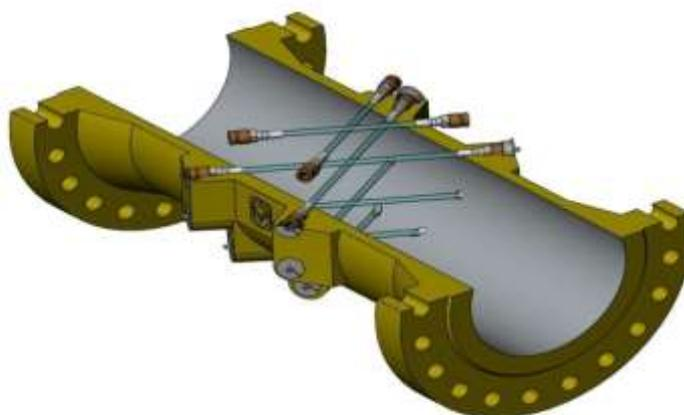

Figure 1 – Measuring scheme of the Vympel-500 ultrasonic measurement system
1.1.1 The Vympel-500 high-precision ultrasonic system is designed for extremely accurate commercial measurement of the flow rate and volume of natural gas and other gaseous media with reference to standard conditions. The device has four to eight independent chord measurement channels using the "sensor to sensor" configuration (Figure 1). The measurement of the target medium's integral velocity along the chords makes it possible to obtain detailed information about the nature of the flow, taking into account its distribution profile in the transition to the flow rate calculation.
The Vympel-500's ultrasonic metering system performs time-pulse measurements. The measuring scheme consists of two measuring sections oriented at 90°/60° to each other, complete with 2 (DN80, DN100) or 4 (DN150 – DN1400) measurement channels in each measuring section (Figure 1). In the 8-channel device, one measuring section is operational and the other is in reserve. If necessary, the second measuring section is used to connect a second electronics module in order to confirm the measurements from the first section. The flow can be measured with reference to the sum of the two measurement sections. Four channels, located along pipeline section chords, make it possible to define the flow profile curve with a high degree of accuracy, even in cases of flow swirl (asymmetric profile).